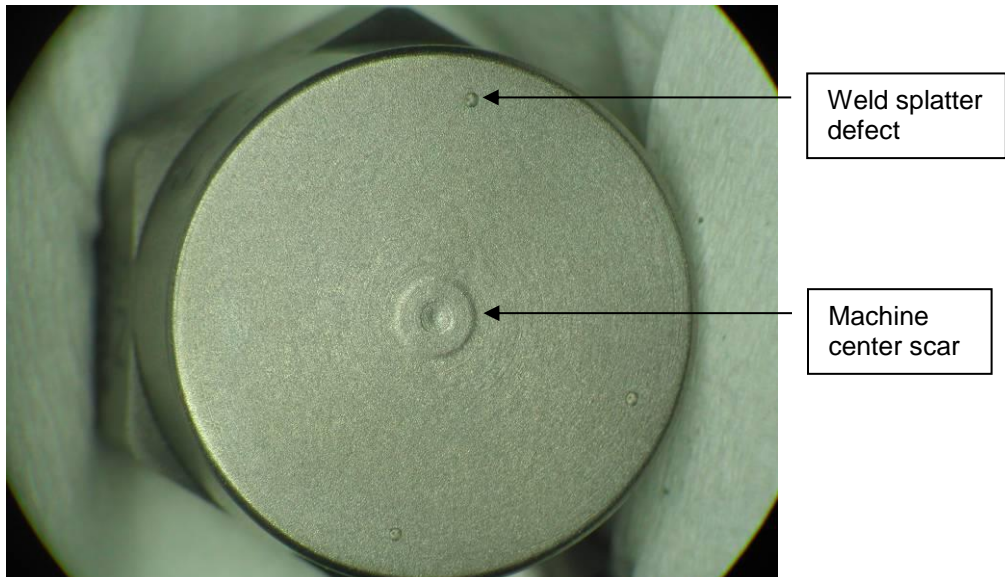
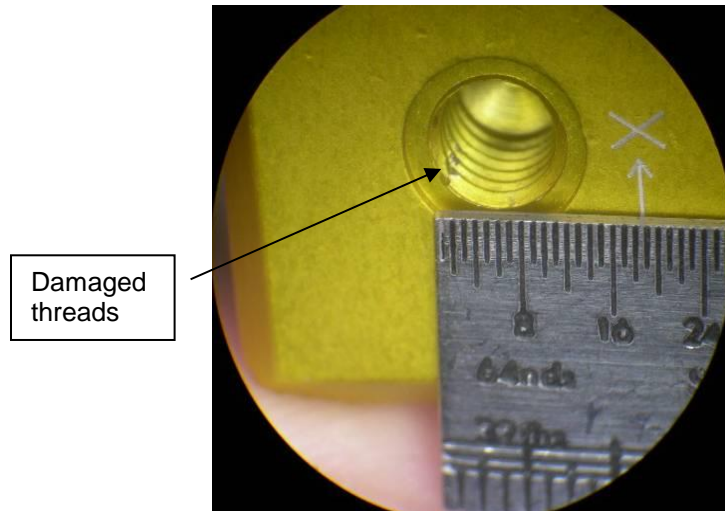

Figure 13 Unacceptable Machining Scar and Weld Spatter Example
Figure 14 Unacceptable Thread Damage Example
2. Examples of Unacceptable Conditions (see Figure 12, Figure 13 and Figure 14):